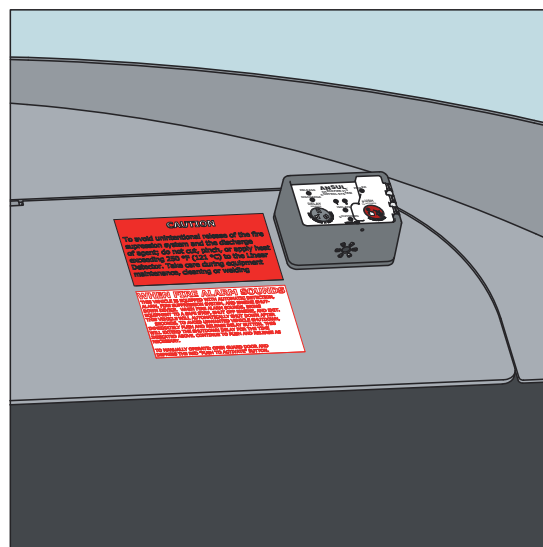
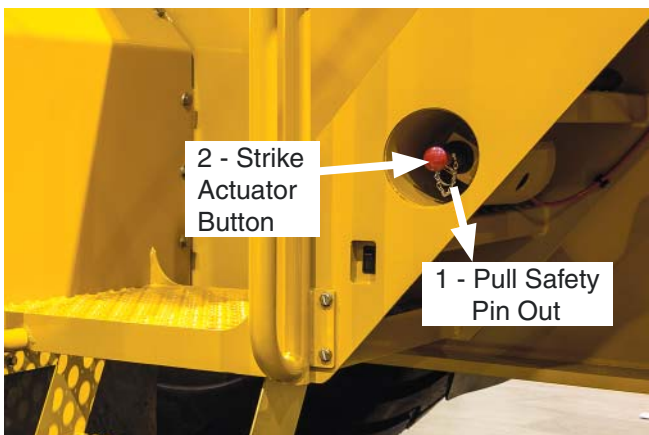
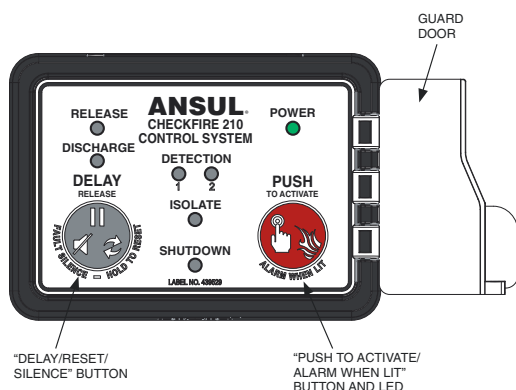

Figure 2-7-2 CHECKFIRE 210 Display Module
Figure 2-7-3 Ground Level Manual Actuator
Figure 2-7-4 CHECKFIRE 210 Display Module
Your Fire Suppression System consists of an automatic detection system, a manual actuator, and the CHECKFIRE 210 display module mounted on the right side of the dash (see Figure 2-7-2). A manual actuator is mounted on the chassis, at ground level, just to the right of the left side boarding stairs (See Figure 2-7-3).
The operator may activate the system by pressing the red button on the CHECKFIRE 210 display module mounted on the right side of the dash (see Figure 2-7-2 and Figure 2-7-4).
Ground personnel may active the fire suppression system by pulling the pin and striking the button on the ground level actuator mounted on the chassis, at ground level, just to the right of the left side boarding stairs (See Figure 2-7-3).
1. Swing the guard door open, press the red “Push to Activate” button on the CHECKFIRE 210 display module and then LEAVE THE VEHICLE (see Figure 2-7-4). Fire retardant will be released, the engine will shut down, and the batteries will be disconnected from the electrical system.